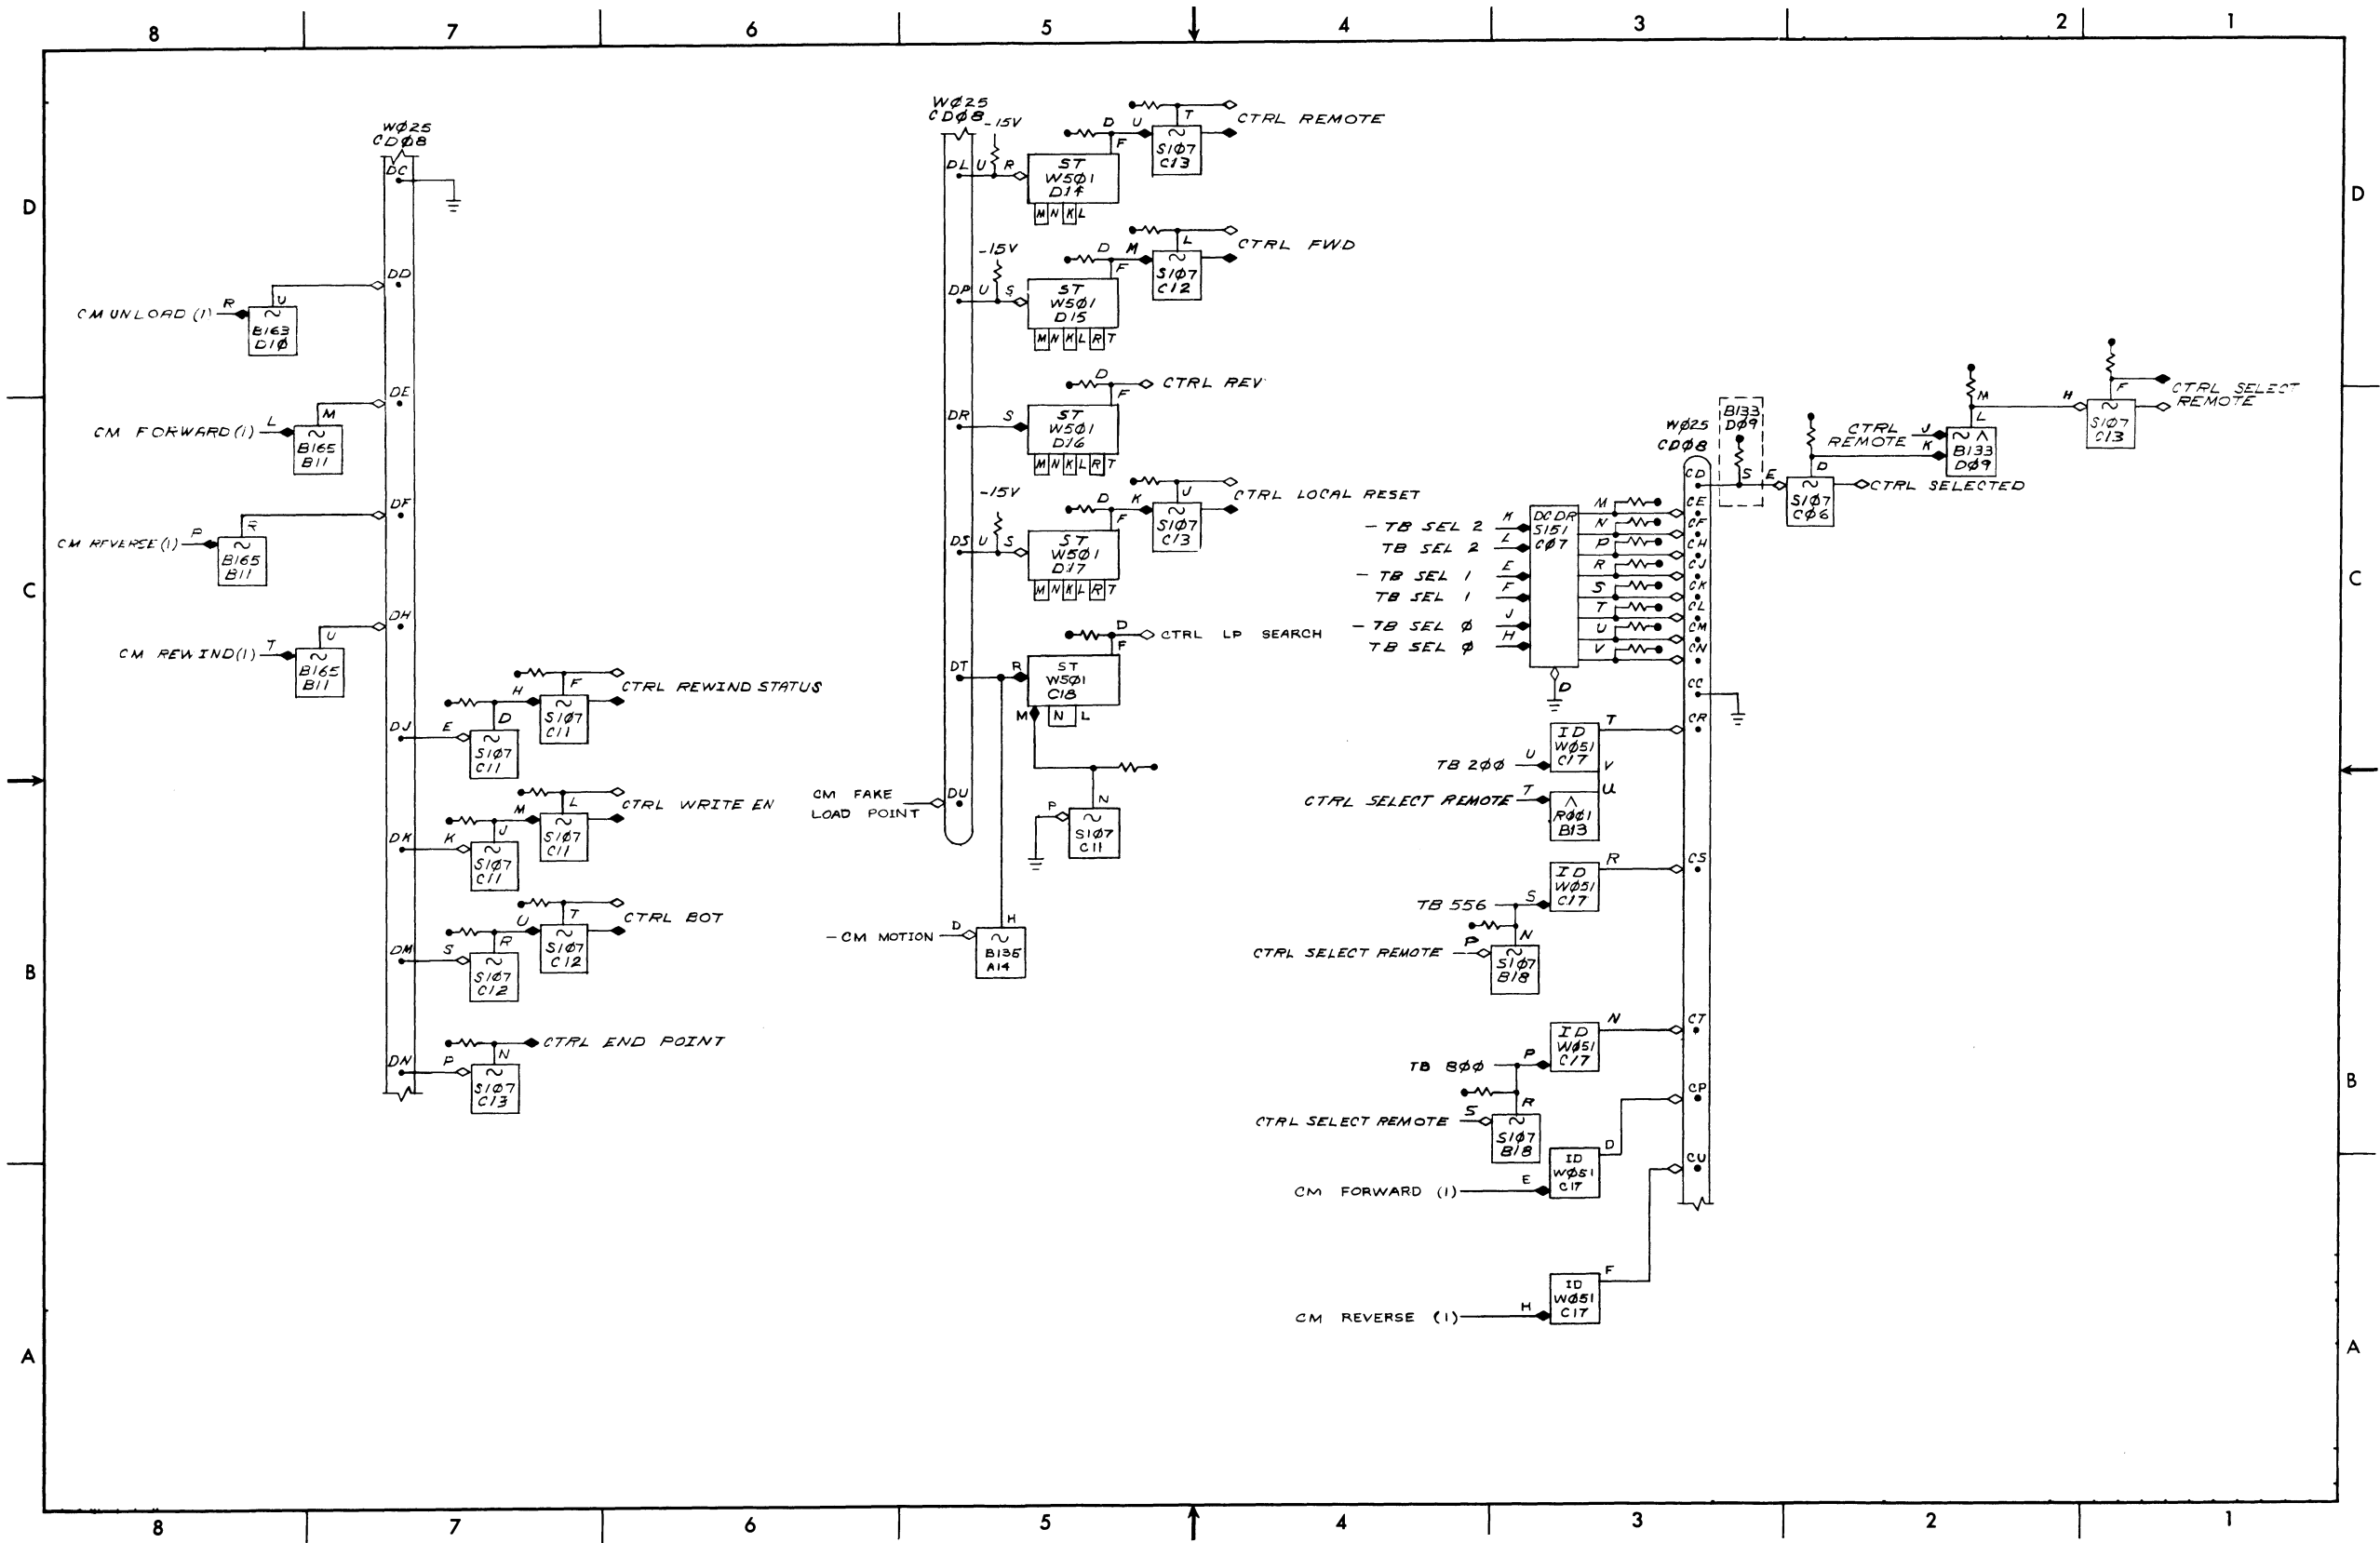

Figure 4-2 Control Logic Block Diagram
**4.1.1.2 Control (CTRL)** - The control (Figure 4-2) interfaces the DEC Logic Package with the Datamec motion-control logic and circuits and all control panel circuitry. All Datamec logic levels (-10V, +10V) enabled by pushbutton action at the TU30 control panel are converted to DEC logic levels by Schmitt triggers. Where both polarities are required, Schmitt trigger output is inverted.